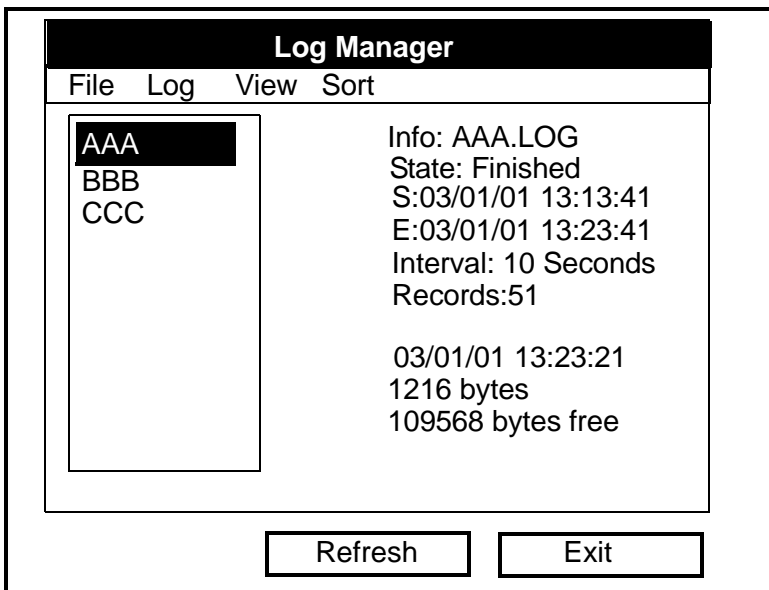

Figure 7-2: The Log Manager Window
The Log Manager offers users a way to check the status and memory size of all the logs currently pending, running or finished. To select Log Manager, scroll to the Manager entry on the Logging Menu and press [ENTER]. The screen appears similar to Figure 7-2 below. The right section of the screen supplies information for the log highlighted in the list on the left. You can use the [▼] and [▲] arrow keys to scroll to a particular log and display information pertaining to that log.
1. First, select the log you wish to copy in the Log Manager (shown in Figure 7-2 on page 7-3).
1. First, select the log you wish to rename in the Log Manager (shown in Figure 7-2 on page 7-3)).
1. First, select the log you wish to delete in the Log Manager (shown in Figure 7-2 on page 7-3)).